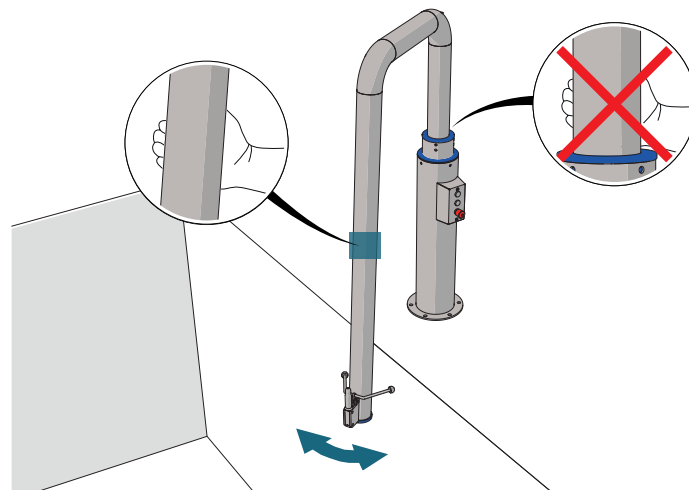

Figure 6 - Grabbing and rotating the lifting arm.
3. With your hand, hold the lift arm (U-tube) of the pool lift (see figure 6).
4. Pull the pool lift to the side in a smooth motion or push the lift to the pool in a smooth motion (see figure 6).